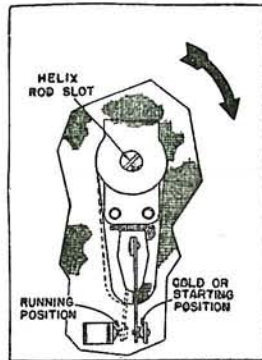

Fig. 4—Sectional view of clutch contact assembly, guard removed.
2. Stack unit must be in cold or starting position before starting burner. Insert screwdriver in slot in end of clutch shaft (see Fig. 4). Turn clockwise in direction of arrow approximately $\frac{1}{4}$ turn and release slowly, making sure that leaf contacts are made firmly in cold or starting position.